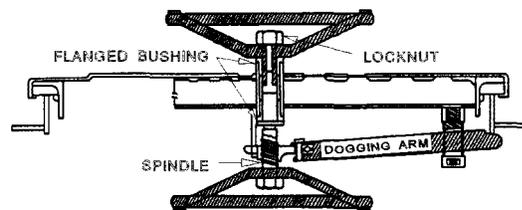

Figure 2-14. Dogging Arm Assembly
- e. Standing below the scuttle, lower the cover and dog it down. Grasp and attempt to wiggle each dogging arm. If one or more of the dogging arms move, tighten the dog adjustment bolt on the loose arm. Dog adjustment bolts have a locking device that consists of a small nylon plug pressed into a hole in the body of the bolt. The locking device prevents the adjustment bolt from backing out after adjustment of the dogging arm. Inspect each adjustment bolt for wear by trying to tighten it by hand. If the bolt screws in all the way by hand, it is worn and must be replaced. Push each dogging arm in toward the scuttle. If it does not return to position, the spring inside the housing which holds the dog must be replaced. Dogging arm assemblies are the same for raised and flushed scuttles. See figure 2-14.